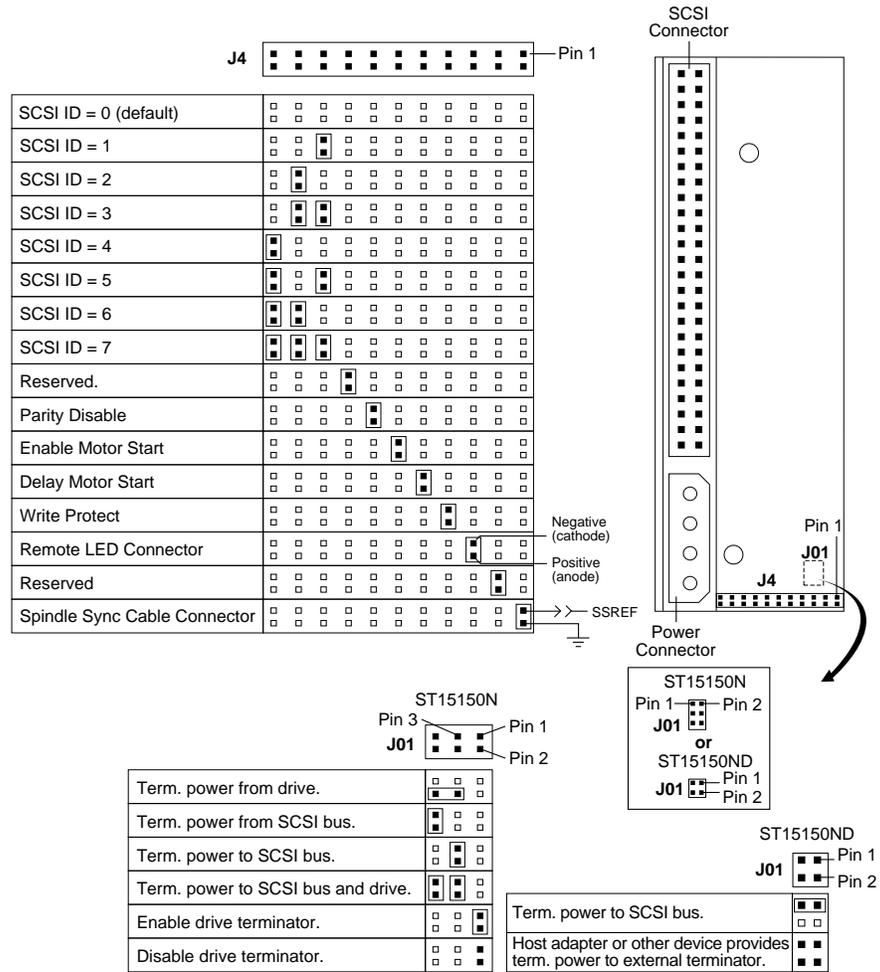
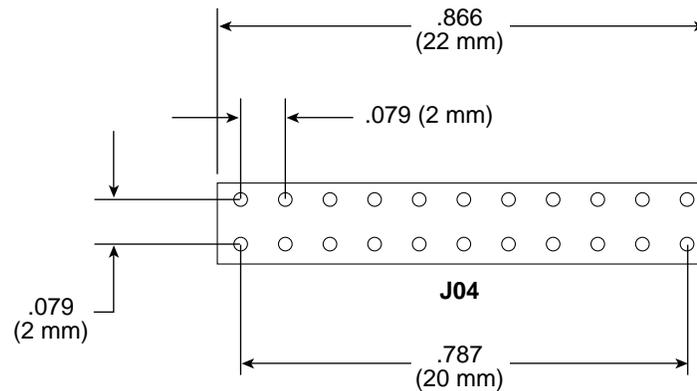

Figure 20. ST15150N/ND drives option select jumper connectors
Figure 26. ST15150N/ND drives configuration select header specification
Figure 20 illustrates ST15150N/ND drives option select jumper connectors.
* See Figure 20 to set the SCSI ID on ST15150N/ND drives
Dimensions of the J04 (J4) connector mounted on the main PCB of ST15150N/ND drives to interconnect the drives are shown in Figure 26. The connector is a 22-pin, 11-position gold 2 mm header type. Only pins 1 and 2 are used for connecting the reference index signal cable, as shown in Figure 20. Pin 1 is SSREF+ and pin 2 is ground.